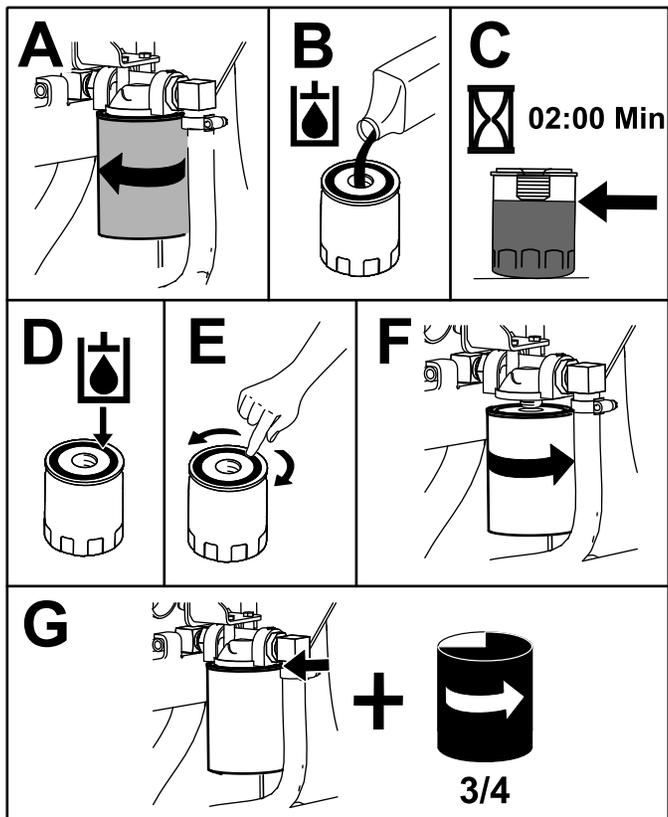

Figure 71
4. Place a drain pan under the filter and replace the filter (Figure 71).